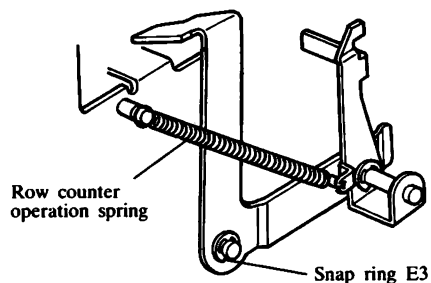

Fig. 39
- (1) Mount the Row counter tripper to the shaft and put the Snap ring E3. (Refer to Fig. 39)
- (2) Hook the Row counter operation spring to the pin on the frame and the Row counter operation lever. (Refer to Fig. 39)